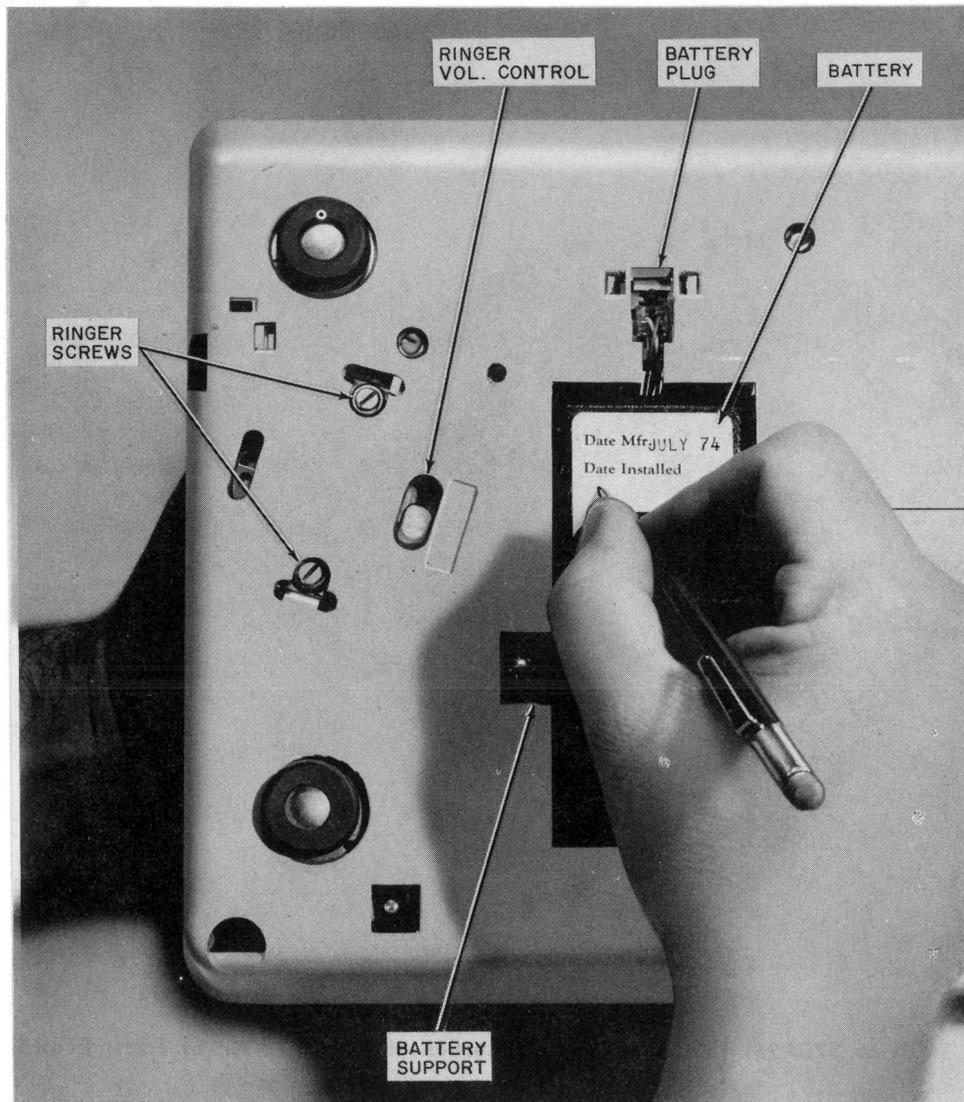

Fig. 5—Telephone Set, Bottom View
Note: Write date of battery installation on label provided (Fig. 5).
- (c) Bottom of telephone set (Fig. 5):